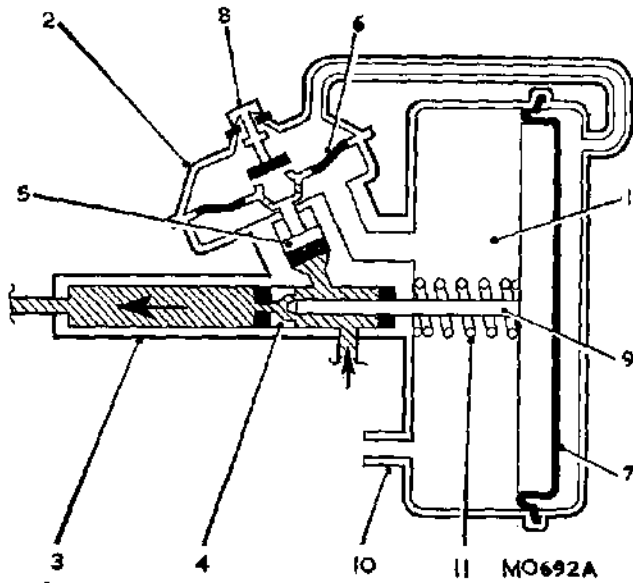

Fig. Mb.1
Refer to Fig. Mb.1. The vacuum-operated servo unit consists of three main components, namely the vacuum cylinder (1), the air valve assembly (2), and the slave cylinder (3) which is connected in the hydraulic circuit between the main master cylinder and the wheel cylinders. Under light braking, fluid is allowed to pass directly to the wheel cylinders via the hollow centre of the slave piston (4) and no braking assistance is obtained; fluid pressure acting on the air valve piston (5) closes the diaphragm (6), thus separating the chamber behind the main servo diaphragm (7) from the one in front. Under heavier braking, further movement of the air valve piston opens the air valve and allows air to enter the chamber behind the main diaphragm, destroying the vacuum. The central rod (9) is thus pushed to the left, sealing the hollow centre of the slave piston and pushing it down its bore, so increasing the fluid pressure at the wheel cylinders. When the brake pedal is released, the pressure beneath the air valve piston is destroyed, the diaphragm (6) re-opens and the air valve closes. Via the non-return valve (10), a suspended vacuum is recreated around the main diaphragm. Under the action of the spring (11), the diaphragm and push-rod, and thus the slave piston, are returned to their original positions, and the pressure in the wheel cylinders is lost.